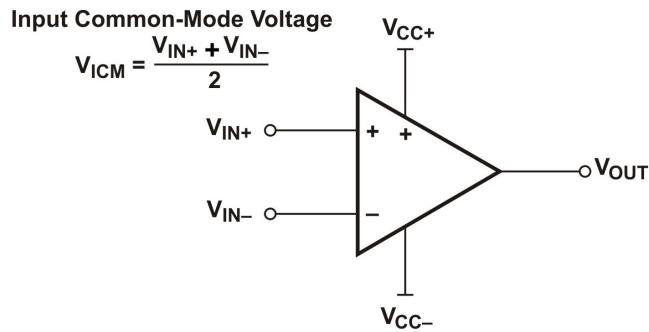

Figure 1: Input common-mode voltage for an op amp.
When speaking of op amp inputs, input common-mode voltage (V_{ICM}) is one of the first terms of which an engineer thinks, but may lead to some initial confusion. V_{ICM} describes a particular voltage level and is defined as the average voltage at the inverting and non-inverting input pins (**Figure 1**).
- Equation in Figure 1: Changed with “–” sign instead of “+” sign